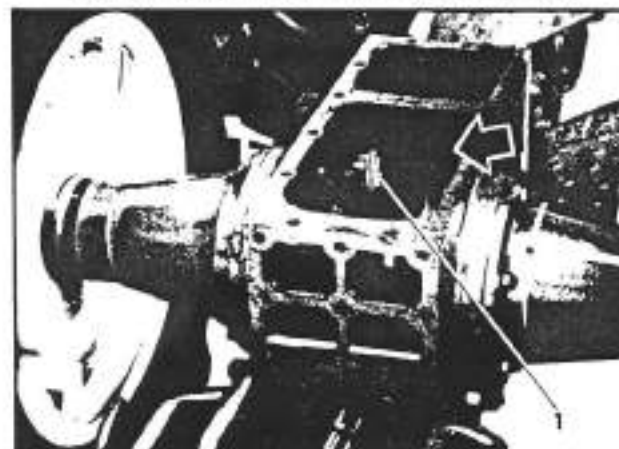

Fig. 3-44. Removal of the rear differential cover
- c. Remove the cover of the rear differential (see figure 3-44).
- e. Remove the tractor wheels and take off the hubs. Remove, from the top, the complete differential (1; fig. 3-44).